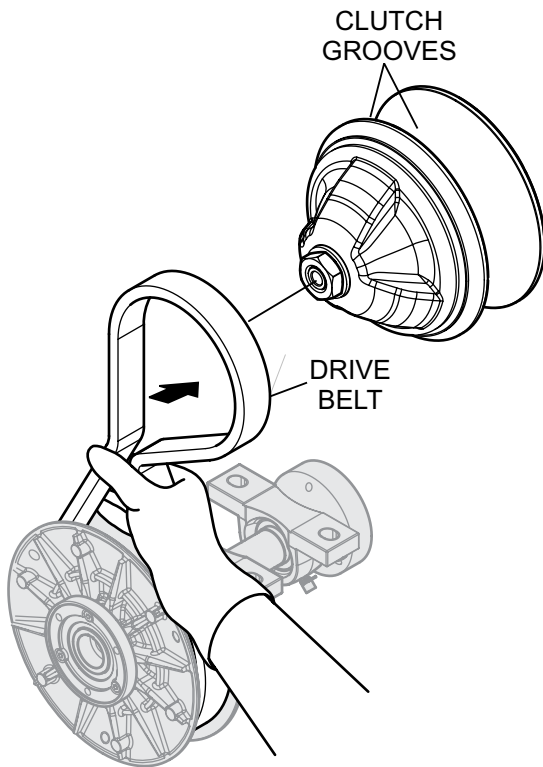

Figure 32. Spare Drive Belt Placement (Clutch)
6. Place spare drive belt onto clutch as shown in Figure 32.